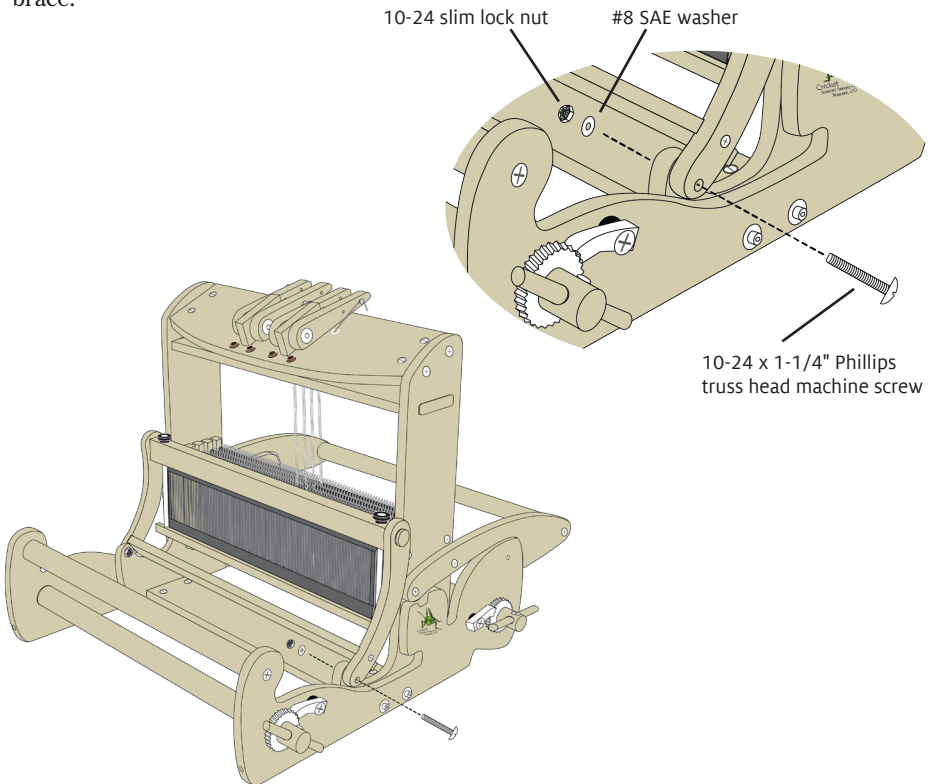

FIGURE 19: ATTACH THE PIVOT BEATER
32. Set the pivot beater on the castle sides as shown in Figure 19, with the bumpers at the back of the beater. Align the holes in the beater sides with the holes in the castle sides. Insert 10-24 x 1-1/4" Phillips truss head machine screws through the holes, then add a #8 SAE washer and a 10-24 slim lock nut. Hold the machine screw with a screwdriver and the lock nut with the wrench to tighten. Tighten the lock nuts securely, then loosen them by a quarter turn so the beater can move freely.